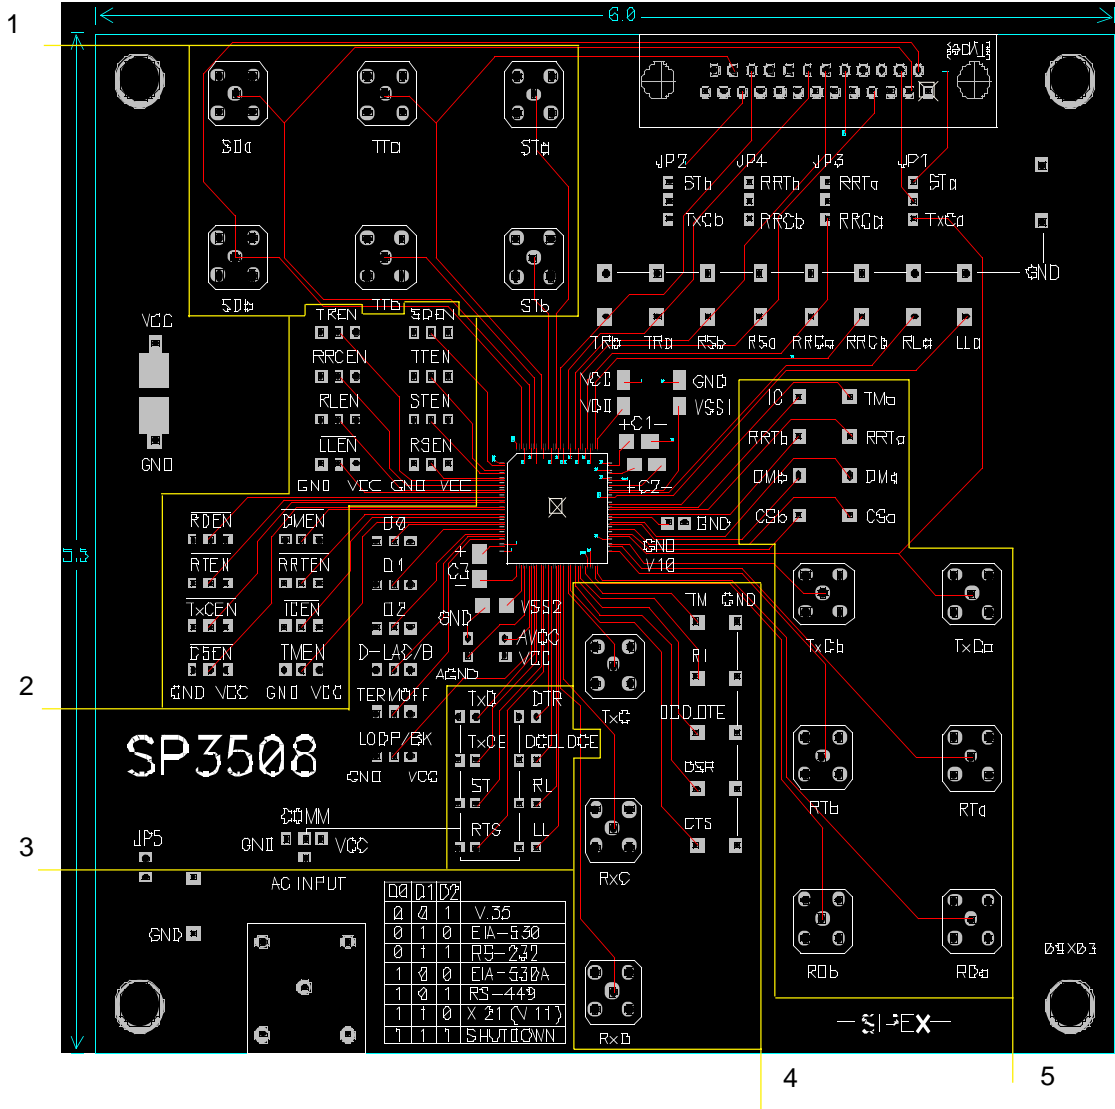

Figure 3. SP3508 Evaluation Board Layout
3. Figure 3 to Figure 6 shows the layout of the SP3508 Evaluation Board.